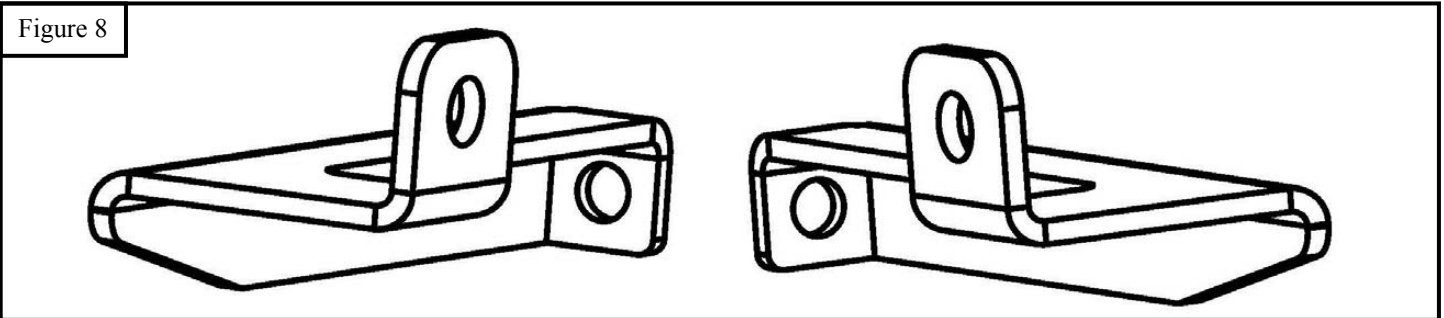
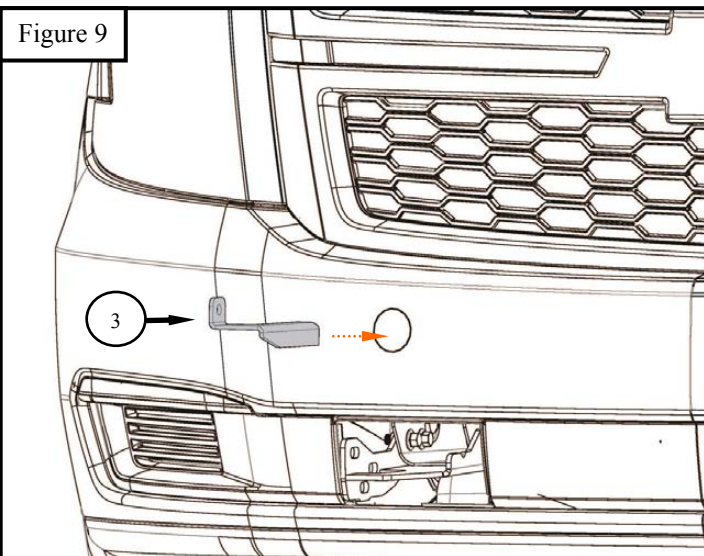

Figure 8
Figure 9
- Locate the Upper Mounting Brackets (items 3&4 on Figure 8) and attach them to the frame where the circular 2” hole was made using the template (Figure 9).